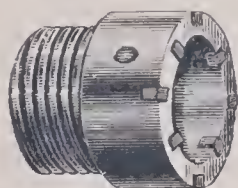

Fig. 8. Diamond-Bit.
**BIT, CORE-SHELL AND CORE-BARREL.** Figs 8 and 9 show the bit and core-shell, by means of which and the core-lifter and core-barrel, the hole is drilled and the core formed, broken off and held while brought to the surface. These tools are also shown in their relative positions in Fig. 4, page 9. The bit first penetrates the rock. It is set, on its lowest face and inner and outer edges, with the small pieces of "black diamond or carbon." This is a form of pure carbon, as hard as the brilliant, but of a dark gray or reddish black color, opaque and not crystalline. Stones of one to three karats weight are used in ordinary drilling.